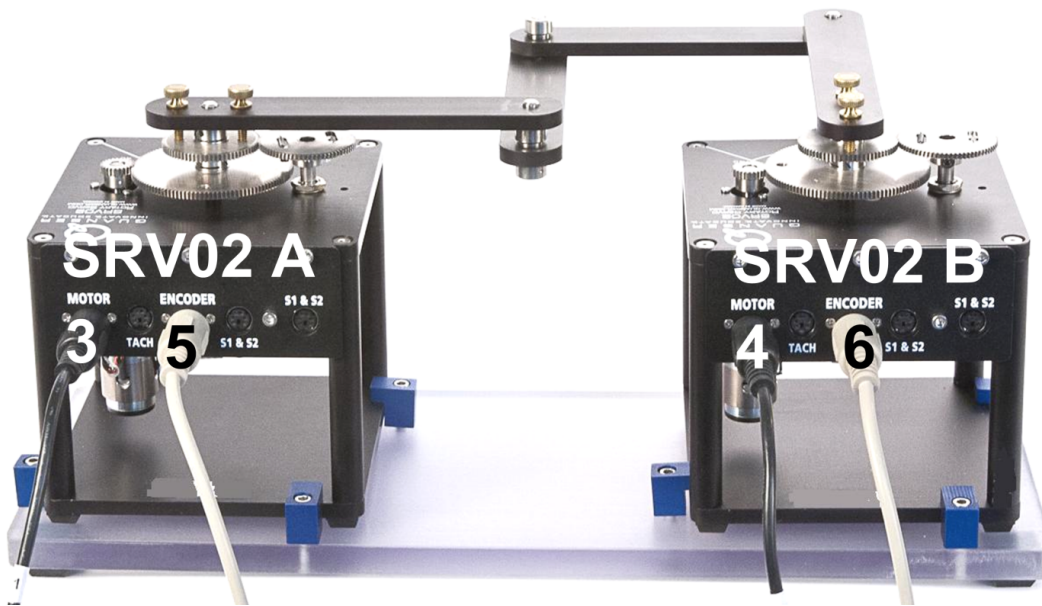
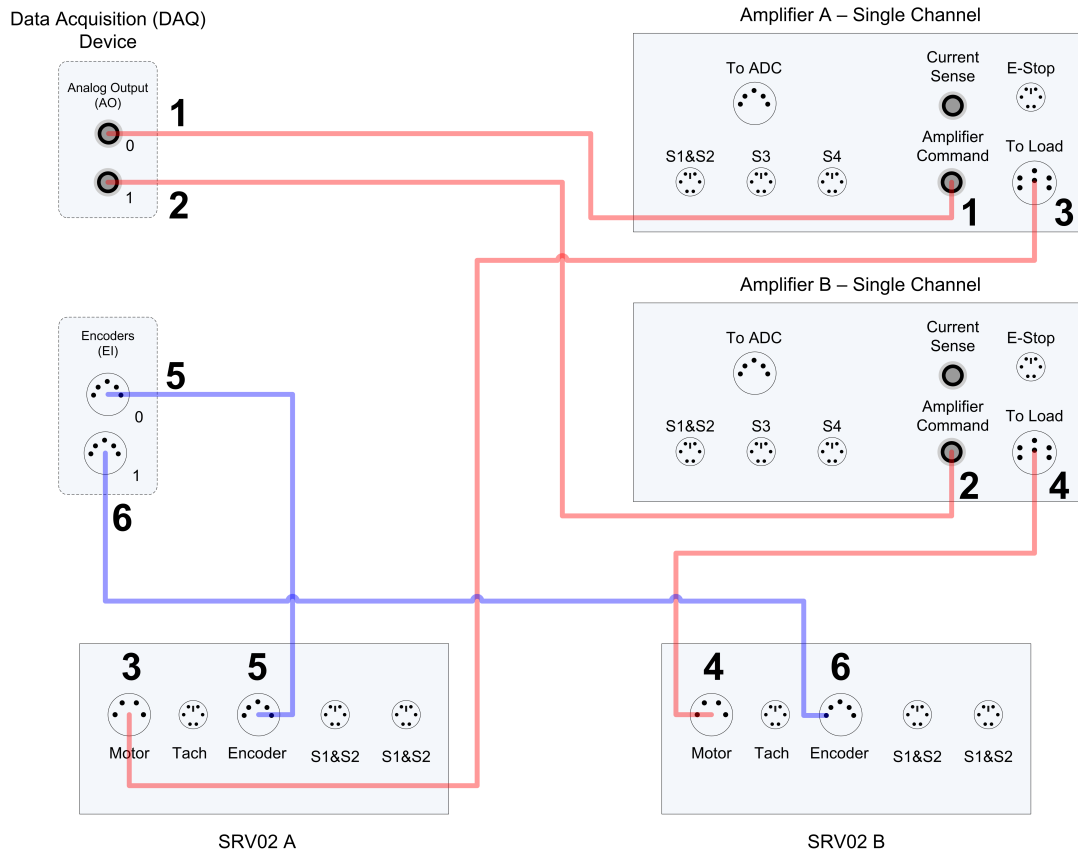

Figure 5.2: Connections on 2 DOF Robot plant.
Figure 5.3: 2 DOF Robot connection diagram using two single channel amplifiers
This section describes the typical connections used for to connect the SRV02 and 2 DOF Robot system to a data acquisition (DAQ) device and a two-channel amplifier. The connections are given in Table 5.2 and illustrated in Figure 5.3 and Figure 5.2. The detailed wiring procedure is given below.
3. Connect one end of the 2xRCA to 2xRCA cable from the Analog Output Channel #0 on the data acquisition (DAQ) device to the Amplifier Command 0 connector on the amplifier, that will be connected to SRV02 A (e.g. red RCA connectors). See cable #1 shown in Figure 5.3. This carries the attenuated SRV02 A motor voltage control signal, $V_{m,a}/K_{a,a}$, where $K_{a,a}$ is the amplifier A gain.
4. Connect the one end of the 2xRCA to 2xRCA cable from the Analog Output Channel #1 on the data acquisition (DAQ) device to the Amplifier Command 1 connector on the amplifier, that will be connected to SRV02 B (e.g. white RCA connectors). See cable #2 shown in Figure 5.3. This carries the attenuated SRV02 B motor voltage control signal, $V_{m,b}/K_{a,b}$, where $K_{a,b}$ is the amplifier B gain.
5. Connect the 4-pin-stereo-DIN to 6-pin-stereo-DIN from To Load 0 on the amplifier to the Motor connector on the SRV02. See connection #3 shown in Figure 5.3 and Figure 5.2. The cable transmits the amplified voltage that is applied to the SRV02 A motor and is denoted $V_{m,a}$.
6. Connect the 4-pin-stereo-DIN to 6-pin-stereo-DIN from To Load 1 on the amplifier to the Motor connector on the SRV02. See connection #4 shown in Figure 5.3 and Figure 5.2. The cable transmits the amplified voltage that is applied to the SRV02 B motor and is denoted $V_{m,b}$.
7. Connect the 5-pin-stereo-DIN to 5-pin-stereo-DIN cable from the Encoder connector on the SRV02 A panel to Encoder Input # 0 on the data acquisition (DAQ) device, as depicted by connection #5 in Figure 5.3 and Figure 5.2. This carries the SRV02 A load shaft angle measurement and is denoted by the variable $\theta_{l,a}$.
8. Connect the 5-pin-stereo-DIN to 5-pin-stereo-DIN cable from the Encoder connector on the SRV02 B panel to Encoder Input # 1 on the data acquisition (DAQ) device, as depicted by connection #6 in Figure 5.3 and Figure 5.2. This carries the SRV02 B load shaft angle measurement and is denoted by the variable $\theta_{l,b}$.